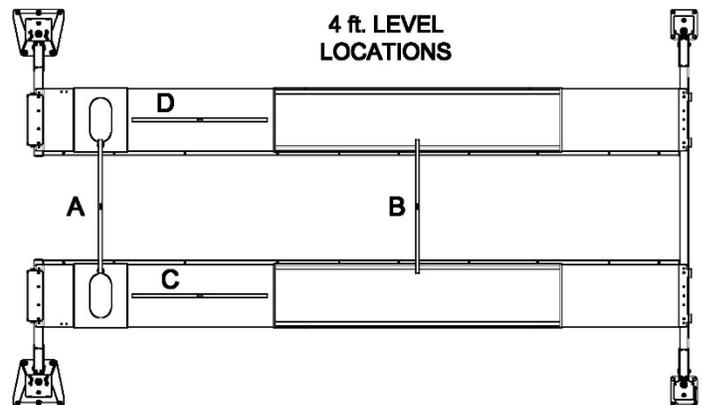

Fig 24 – 4 ft. Level Locations
- 69) Using a 4ft level placed at the following four different locations, find the highest corner of the lift, **Fig 24**: